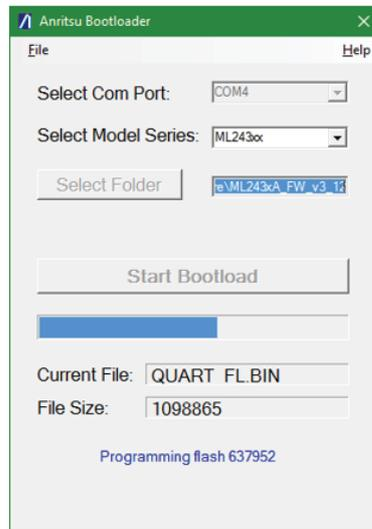

Figure 5-5. Anritsu Bootloader Progress Bar
7. In the Bootloader Application press the Start Bootload button. A window will appear stating to put the power meter into Bootload mode, press OK. The power meter firmware will start loading and a progress bar will be shown in the Bootloader Application, as shown in Figure 5-5. Do not power the ML2430A off until after the firmware load is complete. The front panel of the power meter will turn off, to look like the power meter is off, as the firmware is loading.